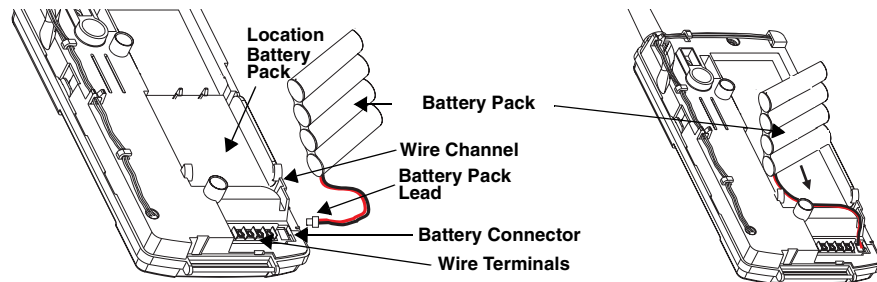

Figure 5. Connecting the Battery Pack
2. Slide the battery pack into the space provided on the back of the remote station (Figure 5).
3. Plug the battery pack lead into the slot provided next to the wire terminals (Figure 5).